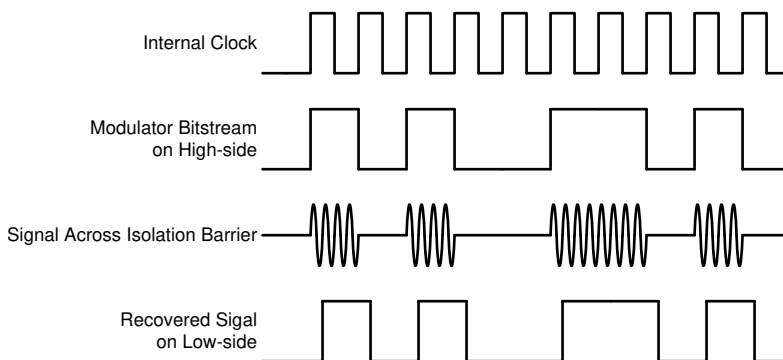

Figure 7-1. OOK-Based Modulation Scheme
The AMC3302 uses an on-off keying (OOK) modulation scheme, as shown in Figure 7-1, to transmit the modulator output bitstream across the capacitive SiO_2 -based isolation barrier. The transmit driver (TX) shown in the Functional Block Diagram transmits an internally generated, high-frequency carrier across the isolation barrier to represent a digital *one* and does not send a signal to represent a digital *zero*. The nominal frequency of the carrier used inside the AMC3302 is 480 MHz.